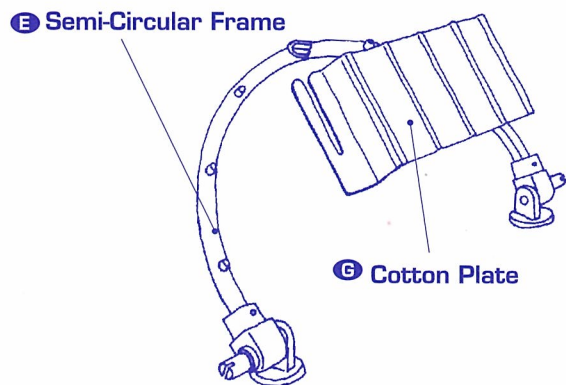

Fig.9-1
- Attach the Cotton Plate by using the U-shaped slit. At this time, make sure to direct the U-shaped slit upwards as illustrated. (Fig.9-1/9-2)